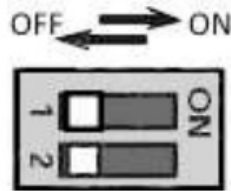

Figure 1: 4-20mA Output
Step 1 – Be sure the white Output mode DIP switches are in the proper configuration (see Fig 1). For 4-20mA output, DIP switch #2 must be in the LEFT/OFF position. Switch #1 has no function in this mode and is OFF by default.